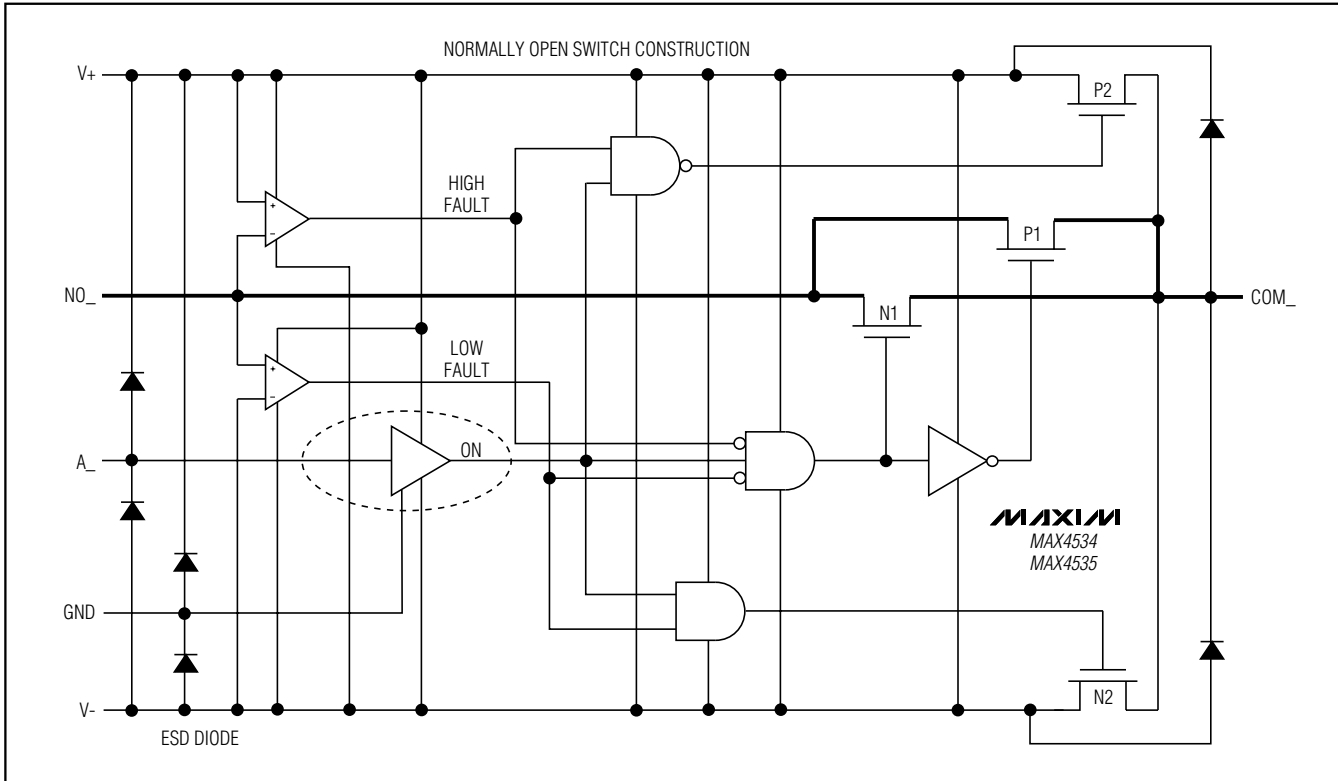

Figure 1. Functional Diagram
Figure 1 shows the internal construction, with the analog signal paths shown in bold. A single, normally open (NO) switch is shown. The analog switch is formed by the parallel combination of N-channel FET N1 and P-channel FET P1, which are driven on and off simultaneously, according to the input fault condition and the logic level state.
off in response to A₋ signals (Figure 1). The parallel combination of N1 and P1 forms a low-value resistor between NO₋ and COM₋ so that signals pass equally well in either direction.
When the signal on NO₋ exceeds V₊ by about 150mV, the positive fault comparator output goes high, turning off FETs N1 and P1 (Figure 1). This makes the NO₋ pin high impedance regardless of the switch state. If the switch state is "off," all FETs turn off, and both NO₋ and COM₋ are high impedance. If the switch state is "on," FET P2 turns on, clamping COM₋ to V₊.
When the signal on NO₋ goes about 150mV below V₋, the negative fault comparator output goes high, turning off FETs N1 and P1 (Figure 1). This makes the NO₋ pin high impedance regardless of the switch state. If the switch state is "off," all FETs turn off, and both NO₋ and COM₋ are high impedance. If the switch state is "on," FET N2 turns on, clamping COM₋ to V₋.
FETs N2 and P2 can source about ±10mA from V₊ or V₋ to the COM₋ pin in the fault condition (Figure 1). Ensure that if the COM₋ pin is connected to a low - impedance load, the 30mA absolute maximum current rating is never exceeded, both in normal and fault conditions.